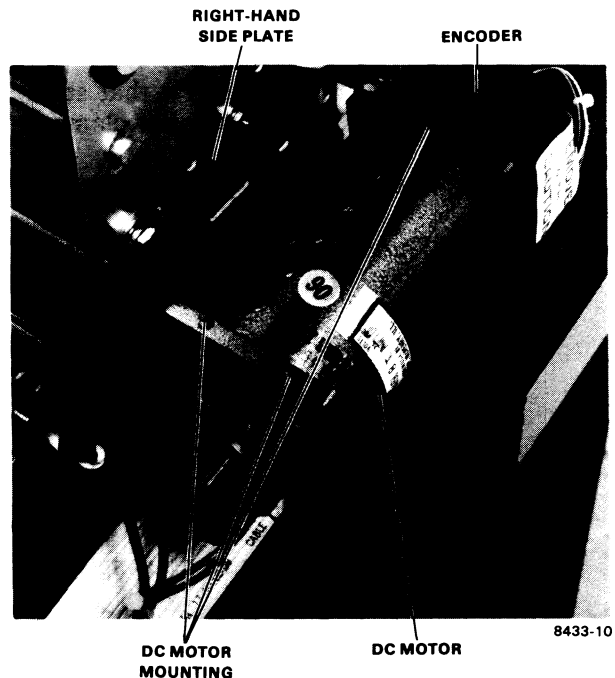

Figure 7-19 DC Motor/Encoder Removal
6. Remove the three (8-32) screws and hex standoffs that secure the dc motor to the right-hand side plate and remove motor (Figure 7-19).